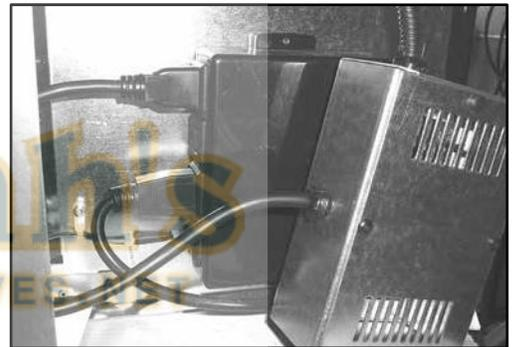

Figure 17: Plugging PVK into Electric Box.
13. Connect the wires to the fan, vacuum switch, and ground according to the wiring diagram in Figure 17. Secure the green ground wire as shown in Figure 9. Route the wires as shown in Figure 10 to prevent them from getting pinched.
18. Plug the power cord from the PVK Control Box into the top outlet marked 120 volt of the Electric Box on the side of the unit as shown in Figure 17.